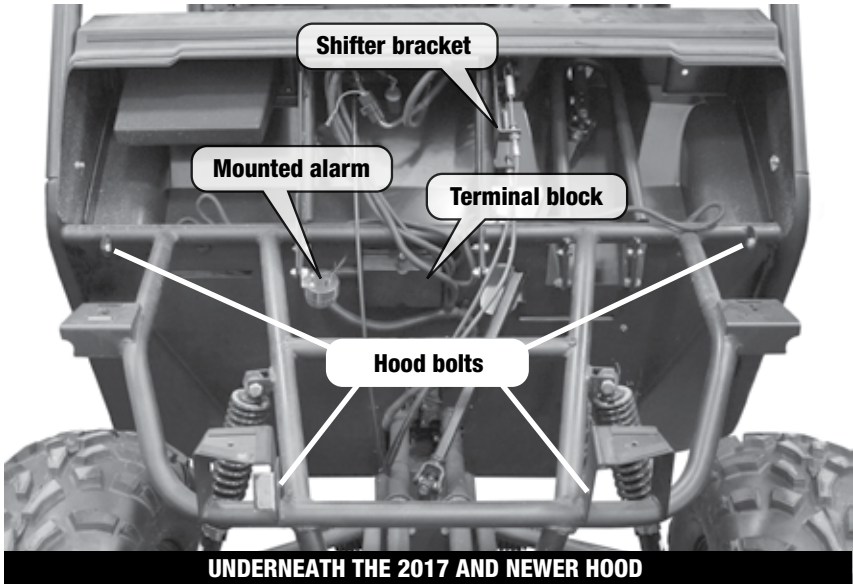
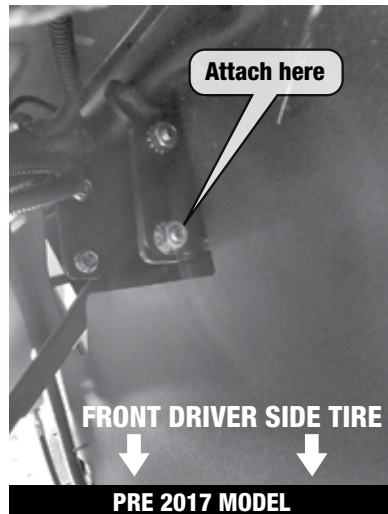

Fig. 1
Fig. 6
- 2** If you have a 2017 or newer model, start with the removing the hood to expose the shifter bracket (If you have a model older than 2017 hood removal is not required). This will require the removal of the four 1/2" bolts that retain the hood to the chassis (see figure 1).
- 4** On 2017 or newer, mount the alarm as shown in figures 1 & 5 on the passenger side of the unit. If the unit is pre-2017 locate the bracket shown on the driver's side by the steering shaft as shown in figure 6. Using the lower bolt, secure the alarm with the existing bolt.